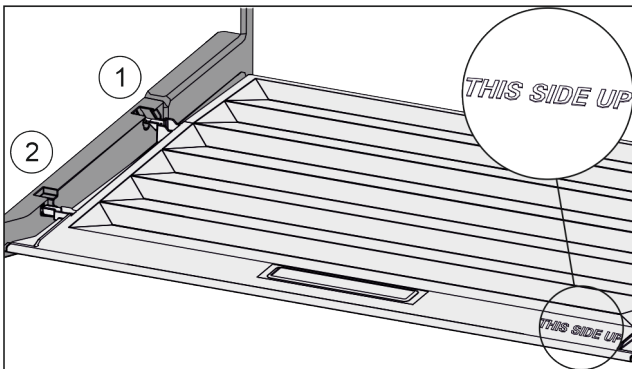

Fig. 24
- ▶ Insert the lip of the cover over the opening of the rear bracket Fig. 24 (1) and click into place Fig. 24 (2).